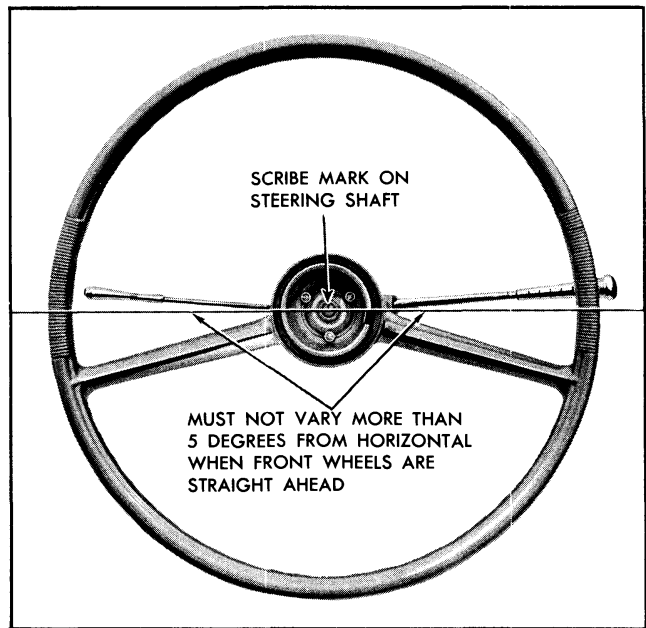

Fig. 9-6 Locating Steering Wheel Position
3. Reassemble steering connecting rod to pitman arm. Set spokes of steering wheel in straight ahead position (mark on steering shaft up, Fig. 9-6). If road wheels are not straight ahead, adjust steering tie rods.
NOTE: Scribe mark on steering shaft must be positioned at top of shaft and steering wheel must not vary more than five degrees from horizontal when front wheels are straight ahead (Fig. 9-6).